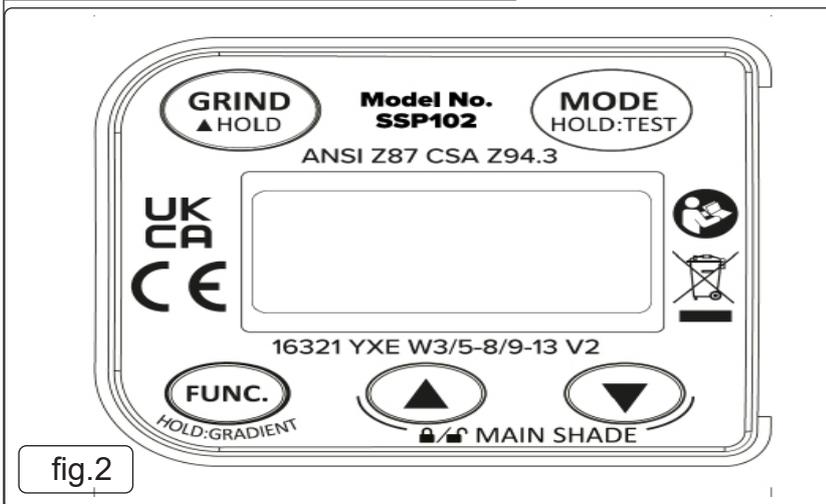

fig.2
- 5.3.4. Press the MODE button (fig.2) to cycle through Weld, Cut and Grind options.